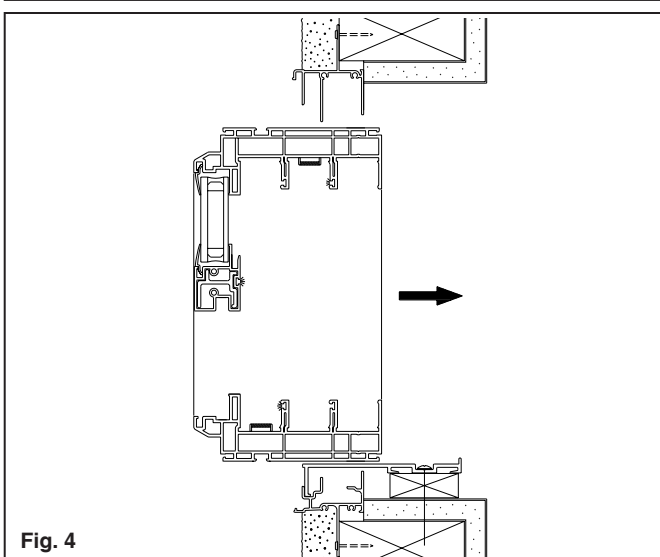

Fig. 4
A. Slide the new frame into the opening. See Fig. 4. Center frame between existing jambs and use shims to straighten and square frame. Wood filler blocks may be used to fill gaps between new and existing frames, but leave a small gap at the head for deflection. Measure frame diagonally across the corners to check for squareness. Adjust if needed.